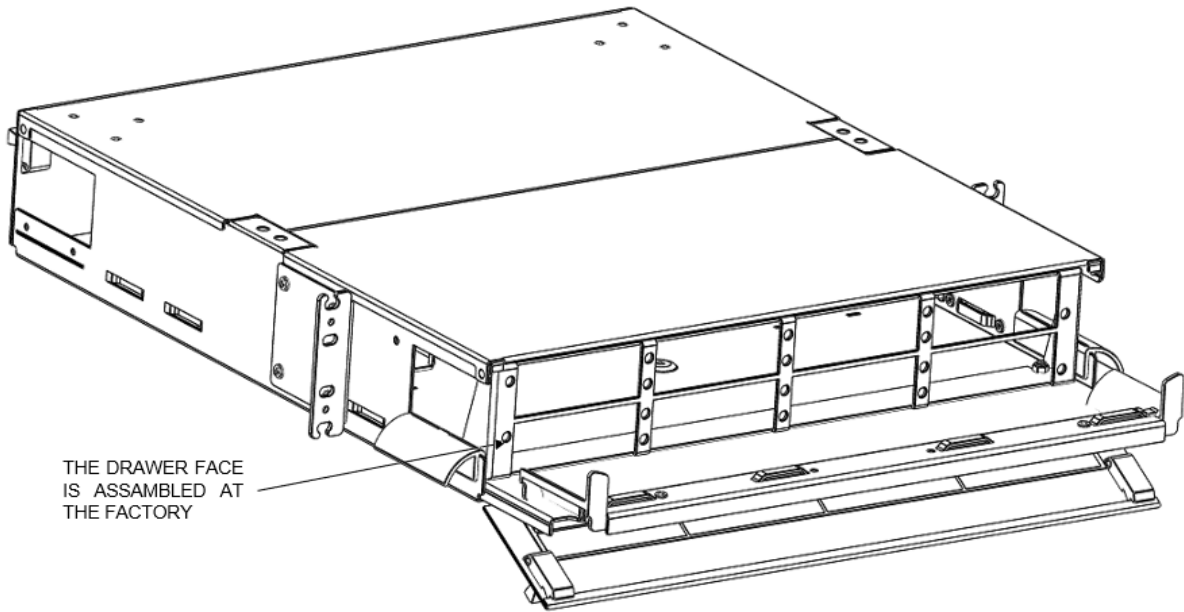

Figure 1
5.2) The Drawer Face (Item 2) is pre-assembled to the tray at the factory (Figure 1).